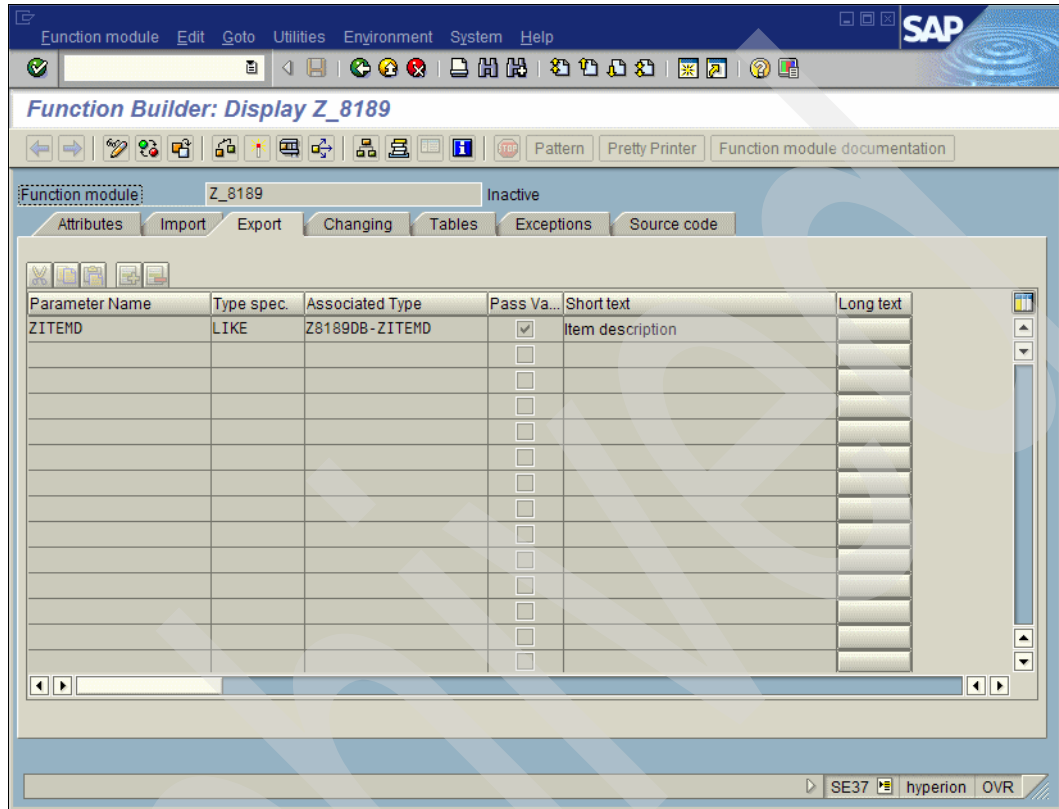

Figure 29-34 Creating an RFC destination
Use the SAP transaction SM59 to create the RFC destination, as shown in Figure 29-34. The RFC connection type is 'Registered'. This means that the destination is registered under Program-ID T8189RFC after startup of the SAP system so that you can establish a communication.
“CL program to register communication for ILE programs” on page 664 explains how to register a communication. You can also perform the registration from a remote server. This enables a communication between an ABAP program and an ILE program running on different servers. See Figure 29-34.
Register the communication under the program-ID T8189RFC before establishing a communication between the ABAP program and the ILE program, see Figure 29-34 on page 663. Use a Control Language (CL) program to register a communication, as illustrated in Figure 29-35.
- ▶ The program-ID, as defined in Figure 29-34 on page 663
- ▶ Establishes a connection to the RFC destination T8189 (refer to Figure 29-34 on page 663)